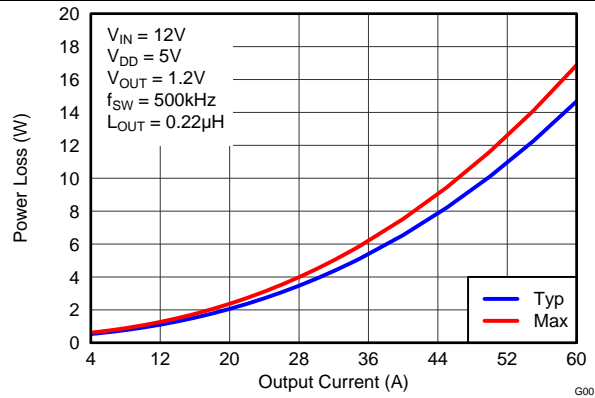

Figure 1. Power Loss vs Output Current
MOSFET centric parameters such as $R_{DS(ON)}$ and Q_{gd} are primarily needed by engineers to estimate the loss generated by the devices. In an effort to simplify the design process for engineers, Texas Instruments has provided measured power loss performance curves. Figure 1 plots the power loss of the CSD95372AQ5M as a function of load current. This curve is measured by configuring and running the CSD95372AQ5M as it would be in the final application (see Application Schematic). The measured power loss is the CSD95372AQ5M device power loss which consists of both input conversion loss and gate drive loss. Equation 1 is used to generate the power loss curve.
The power loss curve in Figure 1 is measured at the maximum recommended junction temperature of $T_J = 125^\circ\text{C}$ under isothermal test conditions.
- Typical Power Loss at 40 A = 6.5 W (Figure 1)